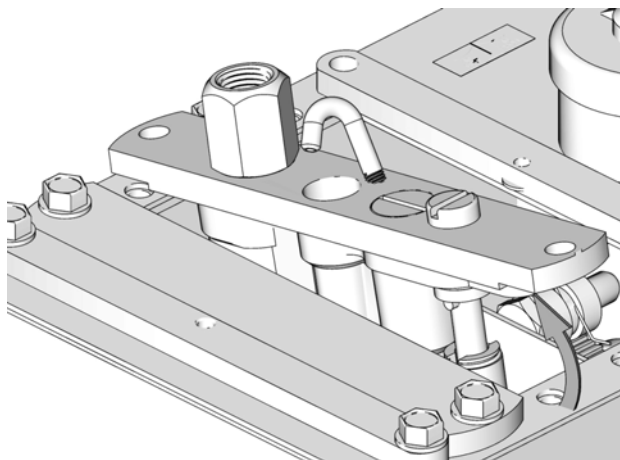

FIG. 6
- b. Loosen the adjacent pump mounting screws (D).
- c. Lift out front end of pump (end with feed regulator screw), pulling it forward and upward at the same time. This will allow the yoke or crosshead to clear the drive shaft and the pump can be lifted out (FIG. 6).